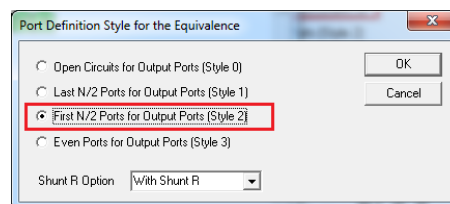

Fig. 32 Extracting Low Frequency RLC Equivalent Circuit on Modua
6. Make sure the selection is “*First N/2 Ports for Output ports (Style 1)*” when Modua prompts you for *Port Definition Style for the Equivalence*. This command is to extract the RLC equivalent circuit of coupled interconnects. For our example, we have 16 ports or $N = 16$. We are extracting the coupled RLC equivalent circuit from it (see Fig. 32).